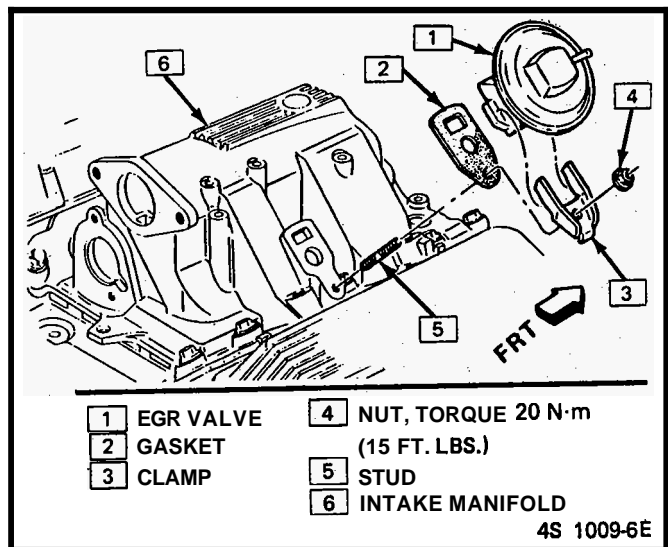
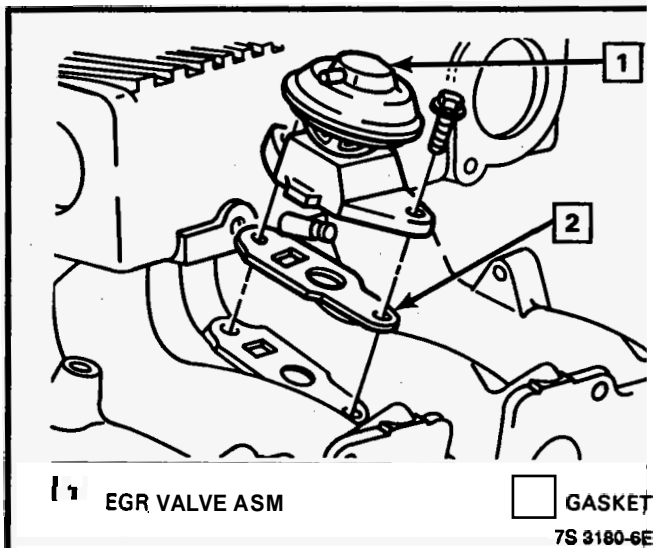

Figure C7-4 - EGR Valve 3.0L, 3.8L & 3.8L Turbo
Figure C7-5 - EGR To Manifold Mount's - 2.0L (Turbo)
1. EGR valve vacuum tube at valve. (Figure C7-4 for 3.8L).
3. EGR valve from manifold (Figure C7-4 for 3.0L, 3.8L, 3.8L Turbo, or Figure C7-5 for 2.0L Turbo)
2. Electrical connector at solenoid (Figure C7-4, C7-6).